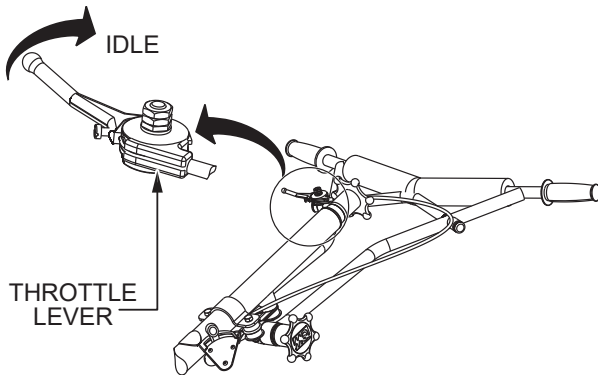

Figure 45. Throttle Lever (Idle)
1. Return the throttle lever to the **IDLE** position (Figure 45) and let the engine run for three minutes at low speed.